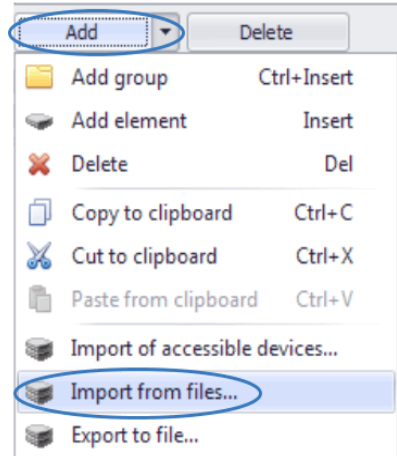

Fig. 36. Import from files.
- Select the “Import from files...” command in the shortcut menu of the “Add” button, then select a file for import (**Fig. 36**).